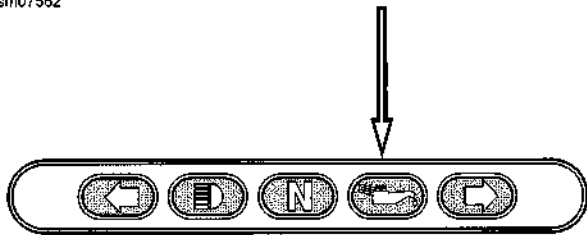

Figure 1-8. Oil Pressure Indicator
3. See Figure 1-8. Verify oil pressure.